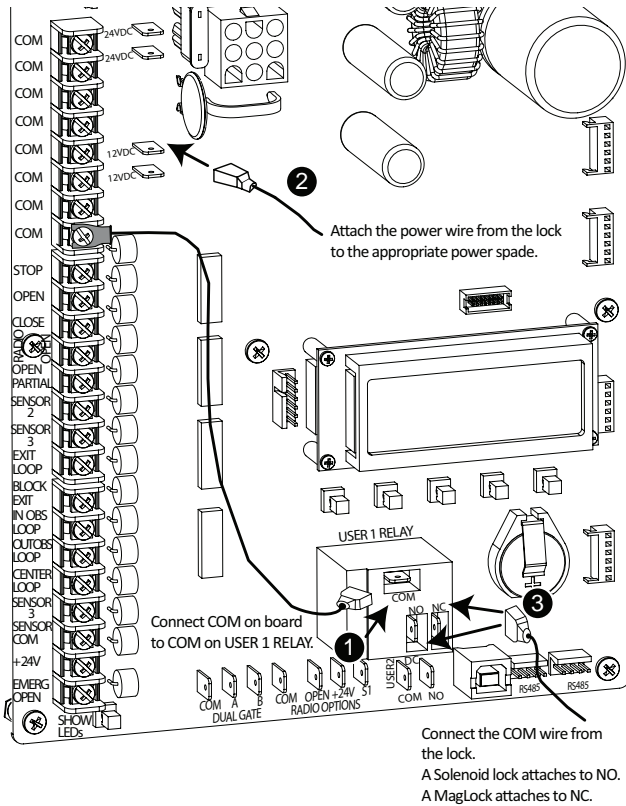

Figure 67. Lock Installation 12/24 VDC
1. Connect one lead of the power supply to one lead of the lock's coil. See Figure 67.